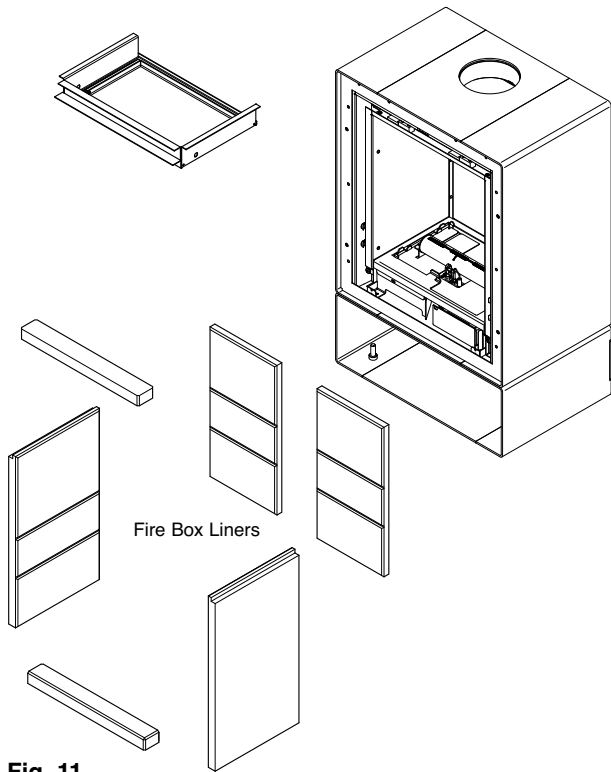

Fig. 11
5. Refit all the back and side liner components and slide black top panel back into position (Fig. 11).